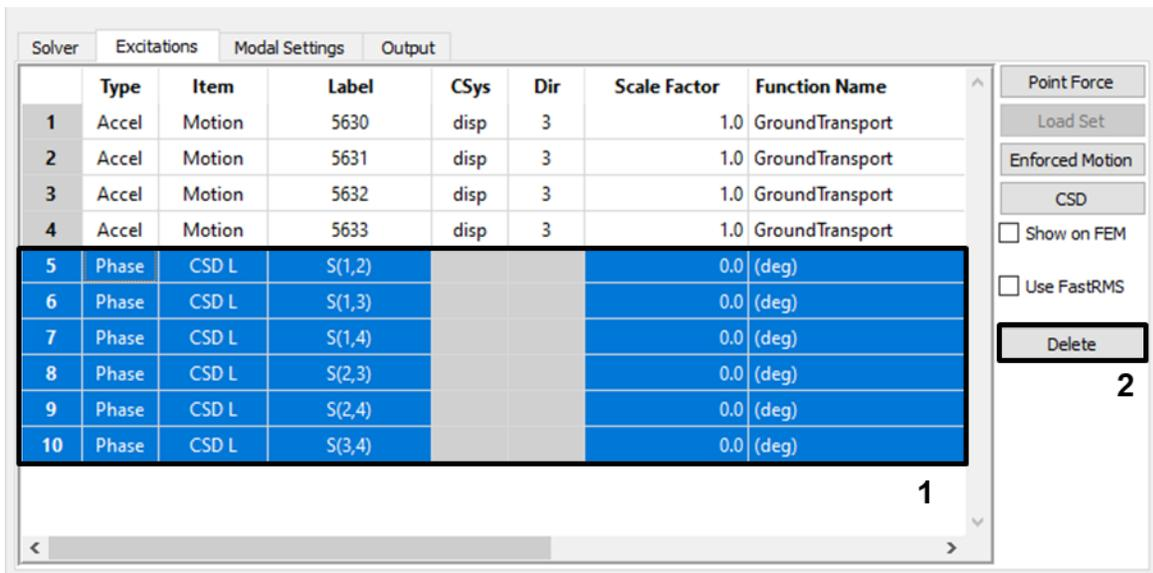

Figure 4-53. Delete the automatic CSD entries.
- Note that 0-phase CSD functions have been defined automatically to correlate these excitations. Ordinarily that is exactly what we want, but here we want to compare correlated and uncorrelated results, and we also want to illustrate how to use the CSD definition dialog. Therefore, delete these CSD functions (Figure 4-53). We will recreate them manually for the event in section 4.3.4.